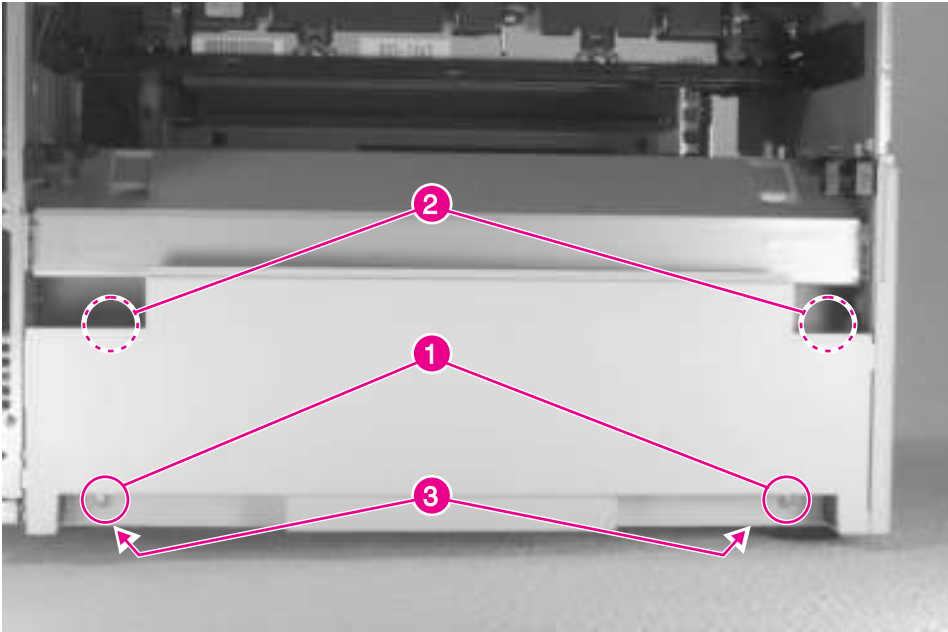

Figure 6-9 Left Lower Cover
- 2 Remove 2 screws (figure 6-9, callout 1).
- 3 Press down firmly on the top cover outer ends to release the retaining tabs on the inside of the cover (figure 6-9, callout 2) and the retaining tabs at the lower edge of the cover (figure 6-9, callout 3).